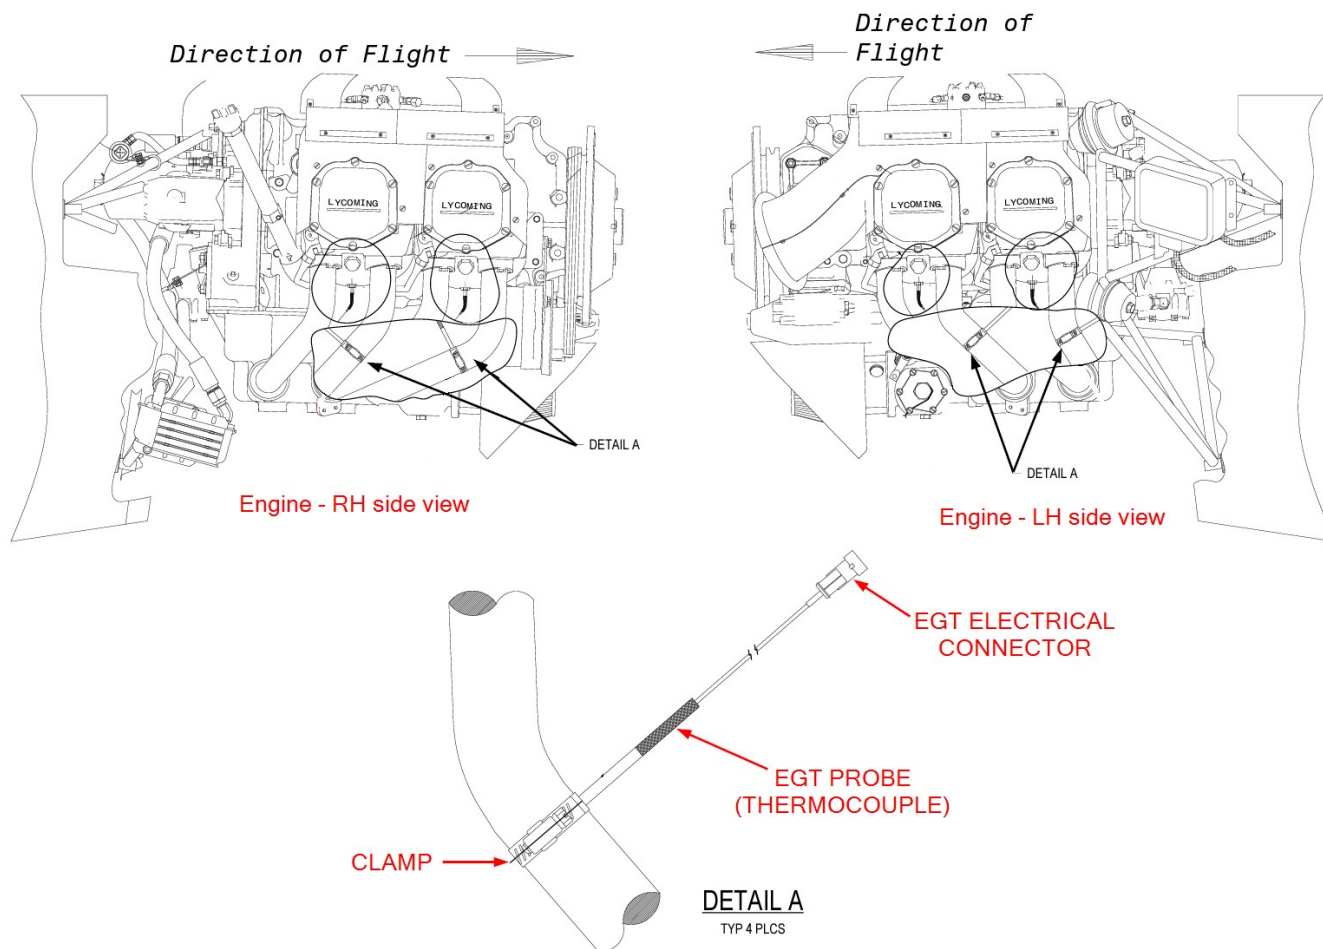

Figure 1. EGT probe (Thermocouple)
4. Disconnect the electrical connector from the EGT probe that needs replacement. Refer to Figure 1.
5. Release the clamp that holds the EGT probe in position. Refer to Figure 1.
7. Put the new EGT thermocouple assembly (item 1) in position and tighten the clamp.
8. Connect the thermocouple adapter harness (item 2) to the new EGT thermocouple assembly (item 1) electrical connector and the engine harness thermocouple connection.
9. Secure thermocouple wires to existing engine harness using cable ties (item 3).
12. Do a test of the EGT indicating system. Refer to AMM Section 77-40, Subsection (D), Step (9).